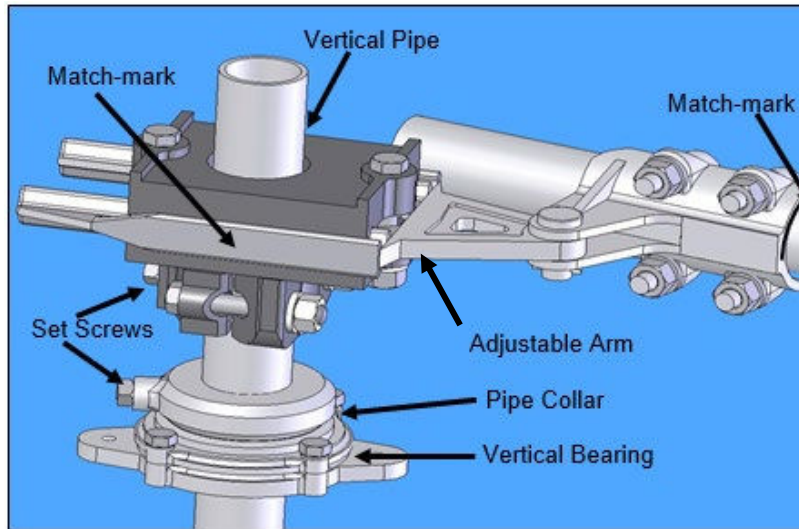

Figure 20: Typical Operating Arrangement
- 5.6. Refer to the Operating Mechanism drawing and install all mounting brackets, bearings, bushings, pipe clevises, switch operating device, adjustable arm, reach rod, and other necessary components. Refer to **Figure 20**. Do not connect the interphase pipe at this time.
- 6.1. The operating mechanism is intended to fully open and fully close the disconnect switch by rotating the vertical operating pipe $180^{\circ} \pm$ using an operator (manual or electrical). The interphase pipe controls the individual operation of each switch pole, using a push/pull control. The reach rod translates the motion of the vertical operating pipe to the interphase linkage. The adjustable arm (**Figure 20**) controls the total amount of switch operation available.